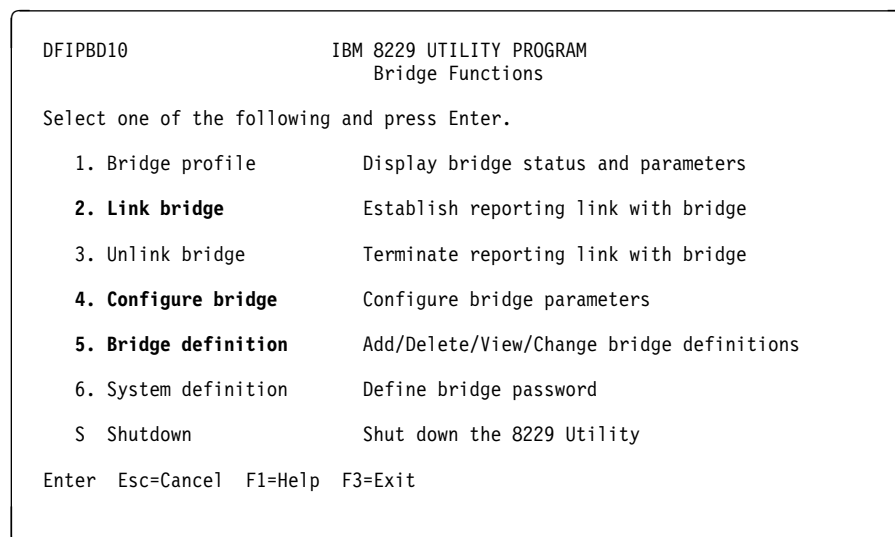

Figure 2-17. IBM 8229 Utility Program Main Menu
- 1) ____ Refer to Figure 2-17, select option **5. Bridge definition**, then press **enter**.